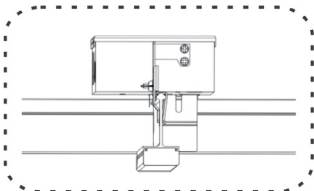
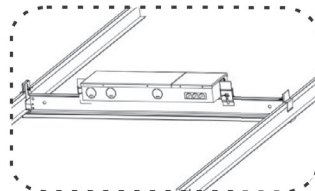

Figure5
Figure6
6. Secure the junction box to the linear light and tighten the two terminal nuts. (Figure5 and Figure6)